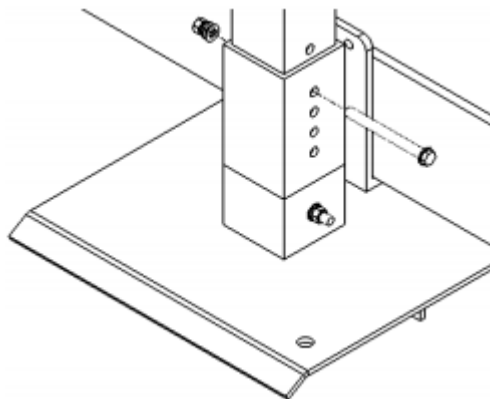

Figure 7
1. Slide the Square Tub Leg into the Middle Leg Support and align the mounting holes at desired height as shown in Figure 7.